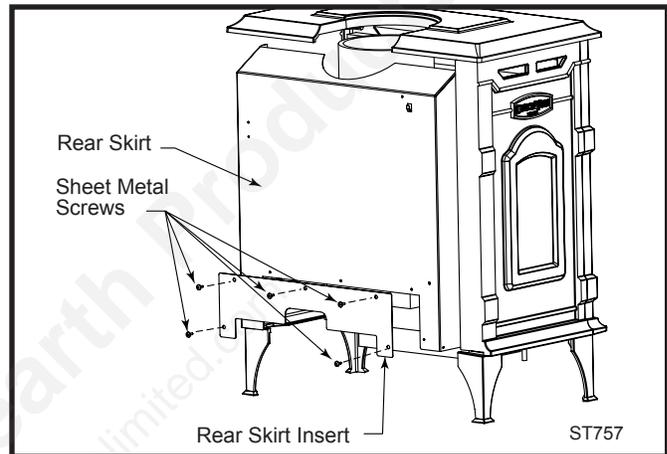
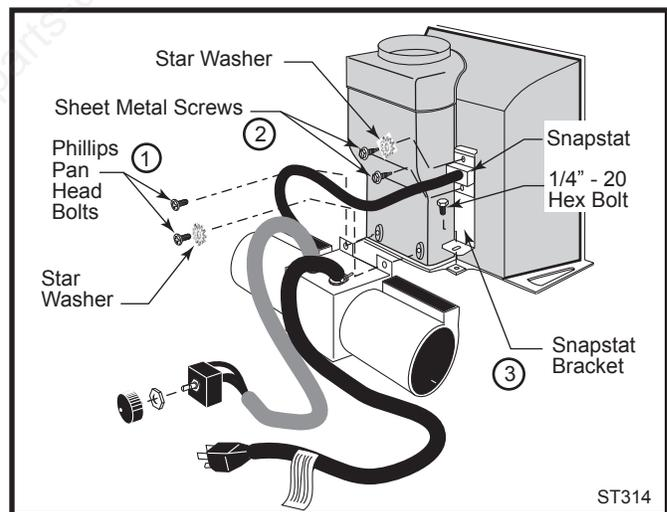

Fig. 13 Remove rear skirt insert.
Fig. 14 Attach the fan assembly and the snapstat.
- Remove the rear skirt insert panel at the bottom of the Rear Skirt (Fig. 13) and fasten the blower assembly to the firebox back with the two Phillips pan-head bolts originally installed in the firebox back. ('1', Fig. 14)
- Attach the snapstat assembly to the snapstat bracket with two sheet-metal screws. ('2', Fig. 14) Attach the snapstat bracket to the stove with a hex-head bolt passing through the bracket and into the stove base. ('3', Fig. 14)